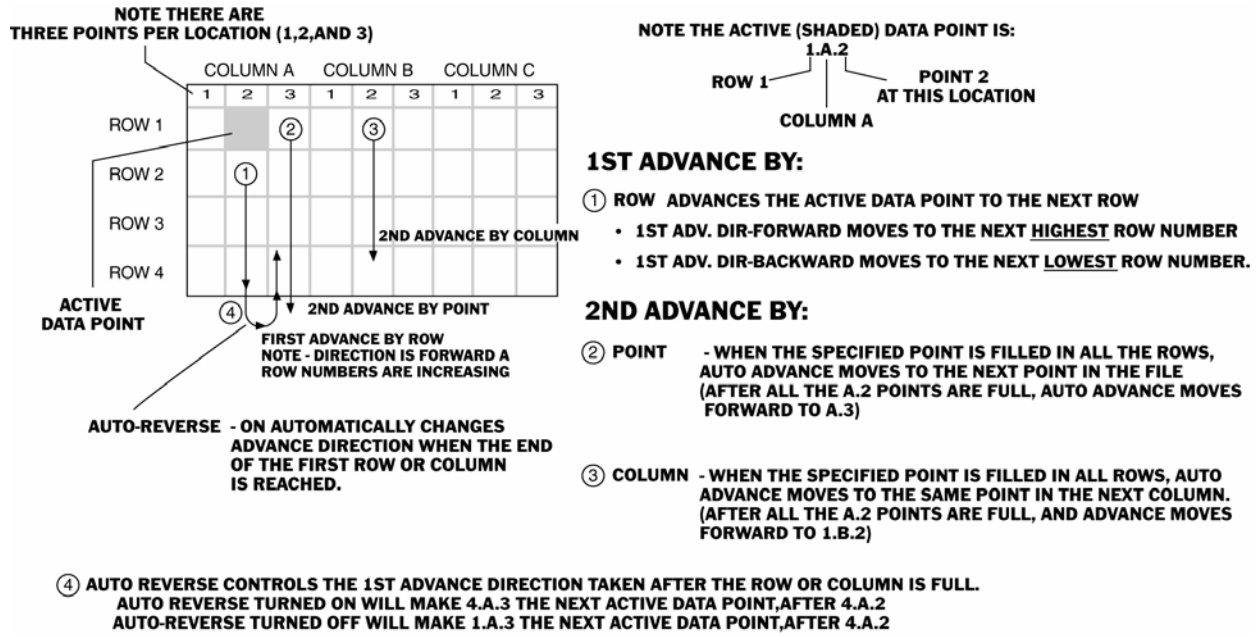

FIGURE 5-8—Adjust the instrument's Auto-Advance feature from the RECORD Submenu.
The AUTO-ADVANCE feature can be modified to suit specific measurement applications. For instance, when recording measurements into a large GRID type file, the physical measurement site may dictate that it's best to advance by column. This means the active data point would automatically move horizontally across the file NAV window, and all the way through the last column before moving down to the next point or row in the file. This is illustrated in Figure 5-8. Note that while this example involves a Grid file-type, the Auto-Advance feature applies to all file types.
Once the AUTO-ADVANCE feature has moved through a column of data, it will then move on the next column or point, for instance, and move through all of the rows in that column of data. If AUTO REVERSE is turned ON, when data is recorded in the last row, the next position will be at the last position of the next column. If AUTO REVERSE is OFF (the default position) the next position will be at the first position of the next column. Again, these movements are illustrated in Figure 5-8.
Step 12: At this time, set AUTO REVERSE to ON or OFF (the default setting). This feature is described in Figure 5-8.